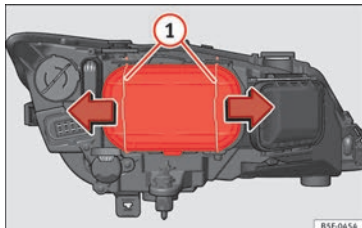

Fig. 102 Dipped beam headlights.
- Move the loops » **Fig. 102 ①** in the direction of the arrow and remove the cover.